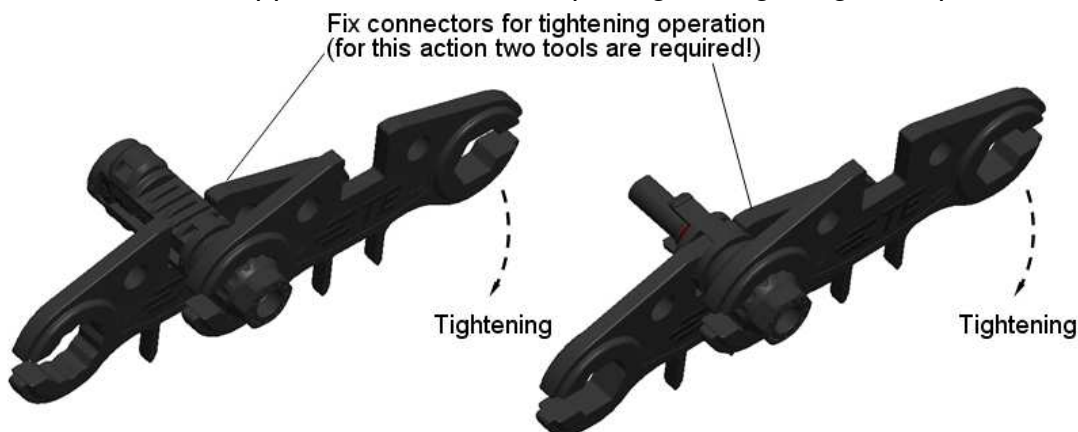

Figure 14
3. For installation application, it can use opening tooling to tighten operation in **Figure 14**